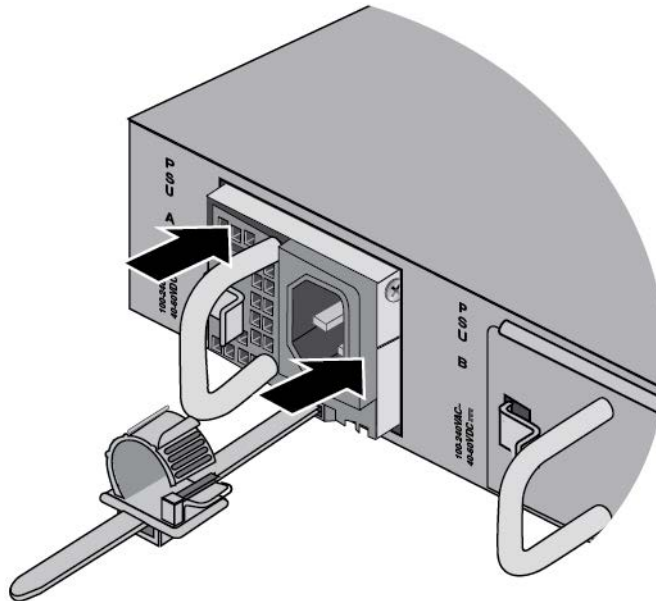

Figure 61. Seating the Power Supply on the Internal Connector
4. When the power supply makes contact with the connector inside the switch, gently press on its faceplate to seat it on the connector. Refer to Figure 61.